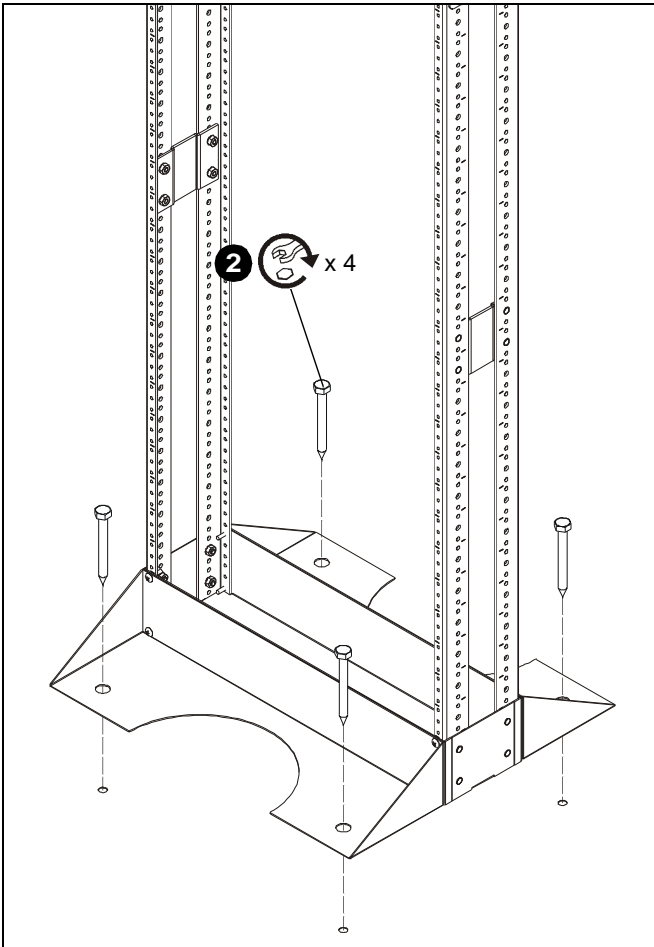

Figure 7
1. Mark and drill four holes at desired mounting location using the holes on rack bottom as a template. (See Figure 7)
2. Use four screws of proper size (not included) to mount RFM mount to floor at desired mounting location. (See Figure 7)